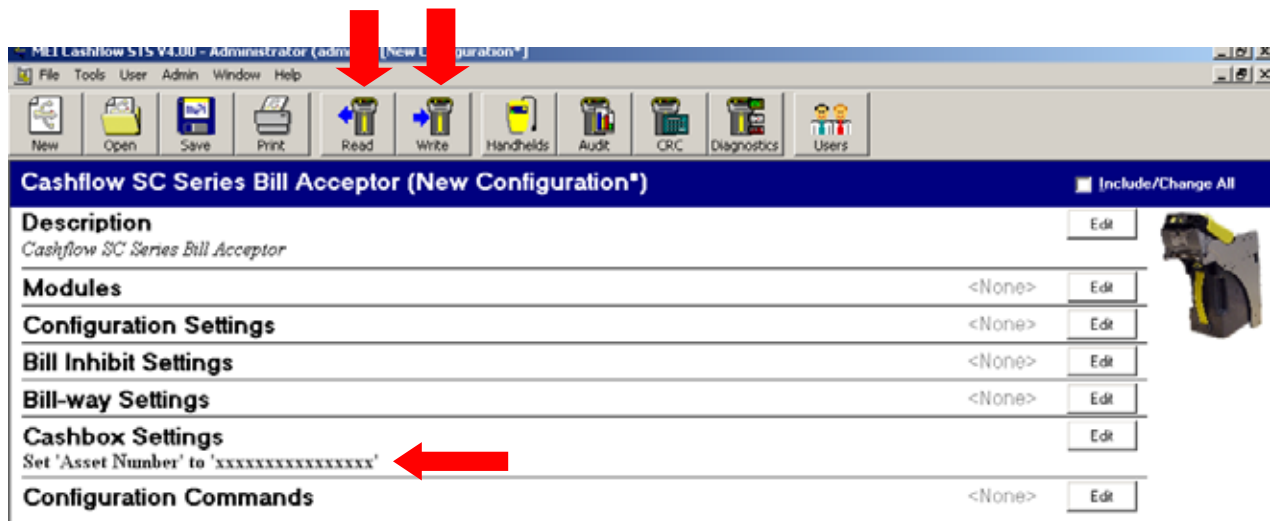

fig. 6
7. Select the write button  from the main screen. See fig.6